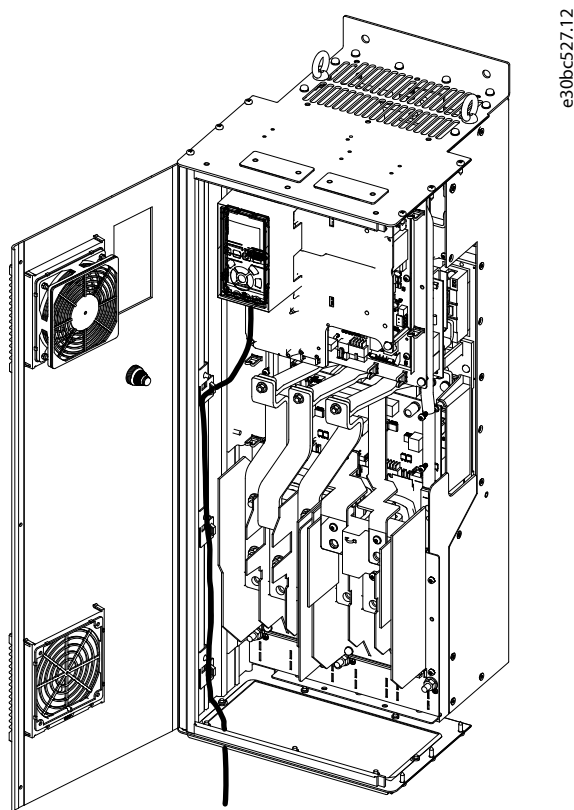

Figure 14: Wiring of Enclosure Sizes D and E
3. Tie down the cable and route it with other control wires inside the unit as shown in Figure 14.